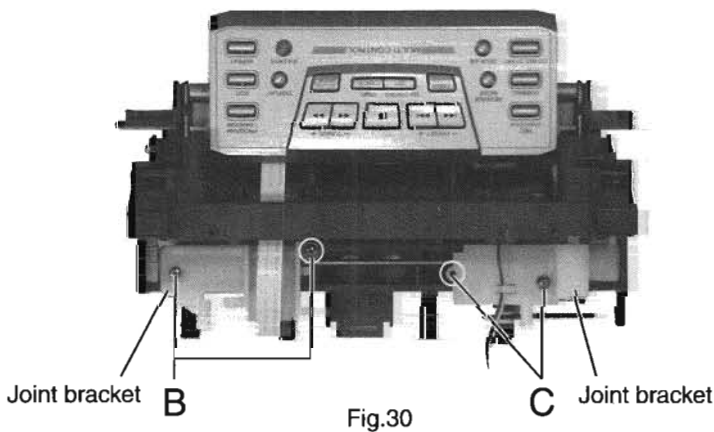

Fig.30
■ **Removing the Drive Motor** (See Fig.30 and 31)